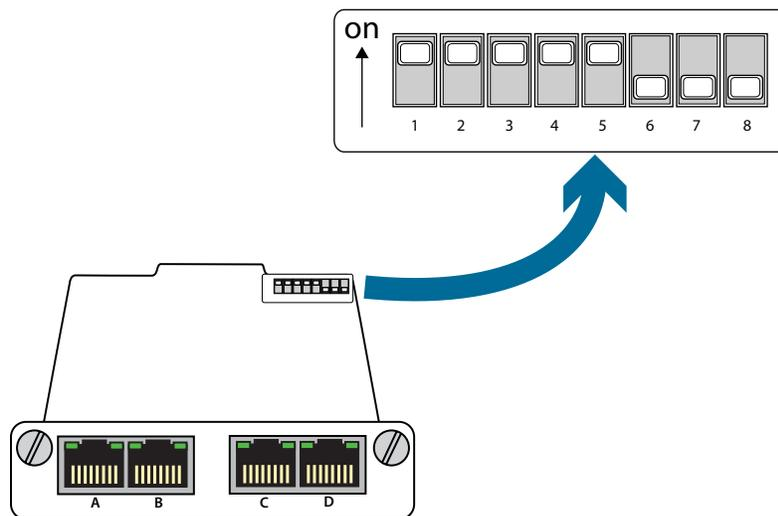

Figure 21: V-Line Aggregate mode
- ❖ To set Aggregate mode on V-Line (Bypass) modules in a portable chassis, set the DIP switches as shown in *Figure 21*. See *Appendix B, V-Line DIP Switches on page 48* for switch key.